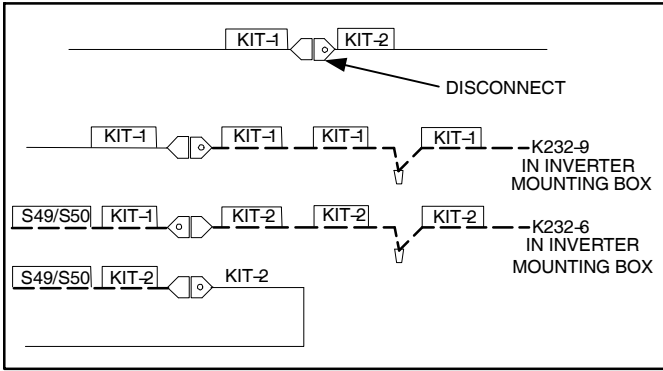

Figure 7. Installing both Freezestat and VFD Kits
5.2. Make wiring connections as illustrated in figure 7 using kit provided harnesses.
5.2.4. Make all other wiring connections as illustrated in figure 7 and per wire markings. In addition, see wiring diagram provided with VFD kit.